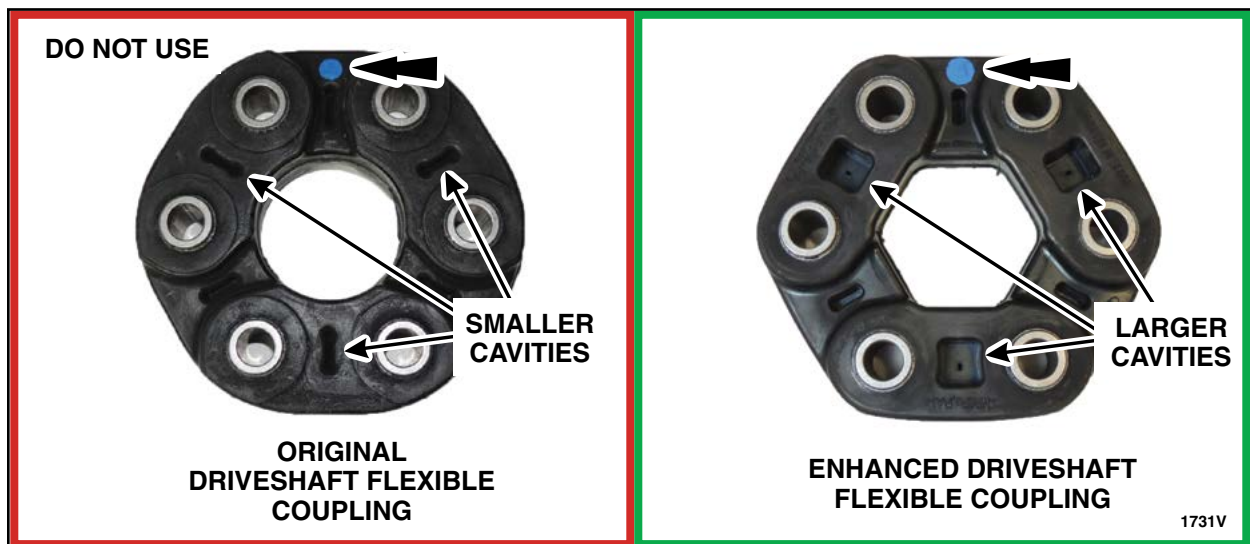

FIGURE 15
- The blue paint marking on the *new* driveshaft flexible coupling must be installed facing the transmission output flange or premature failure of the flexible coupling will occur. See Figure 15.